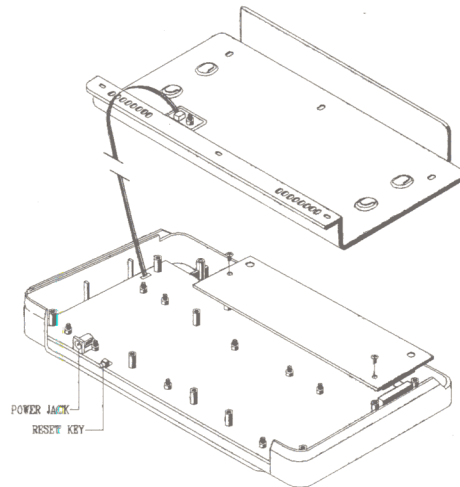

Figure 2-4-4 Plug in the expansion card and tighten the screws
- step 3. Plug in the expansion card by matching the pins of the connectors and then turn the screws clockwise until they are tight. (see Figure 2-4-4)